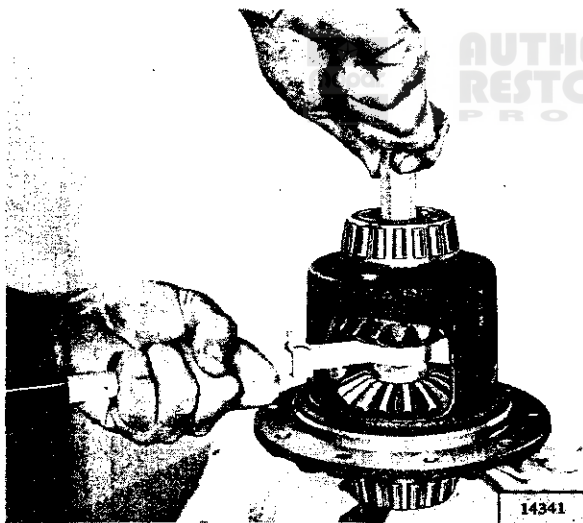

FIG. N-58—THREADING FORCING SCREW INTO ROTATING TOOL
i. Keep side gear and rotating tool in position by holding with hand. Insert the forcing screw down through the top of the case, and thread into the rotating tool. Refer to Fig. N-58.